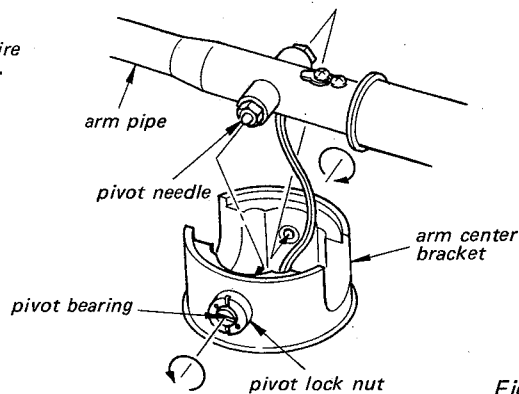
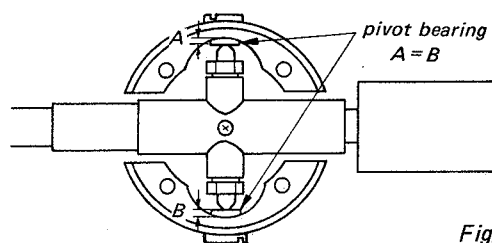

Fig. 5
Fig. 6
- 2) Install the pivot needle as shown in Fig. 5. Temporarily, secure the two bearings for A = B as shown in Fig. 6. Do not tighten the two bearings strongly.